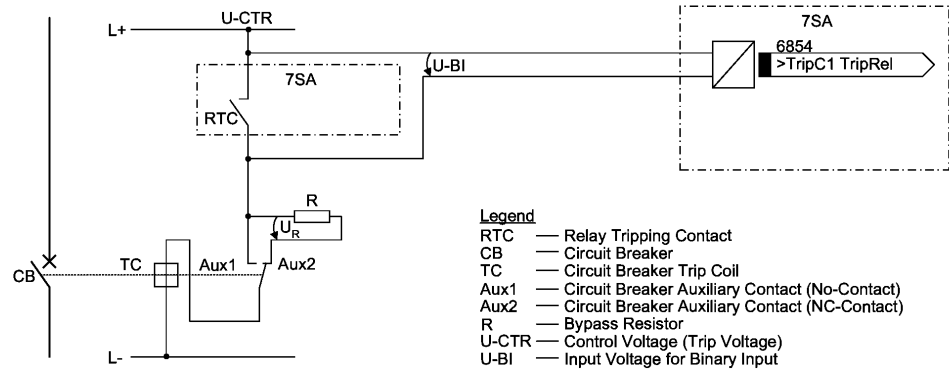

Figure 3-2 Trip circuit supervision with one binary input — Example for trip circuit 1
If one binary input is used, a bypass resistor R must be used (refer to Figure 3-2). This resistor R is connected in series with the second circuit breaker auxiliary contact (Aux2), to also allow the detection of a trip circuit failure when the circuit breaker auxiliary contact 1 (Aux1) is open, and the command relay contact has reset. The value of this resistor must be such that in the circuit breaker open condition (therefore Aux1 is open and Aux2 is closed) the circuit breaker trip coil (TC) is no longer picked up and binary input (BI1) is still picked up if the command relay contact is open.